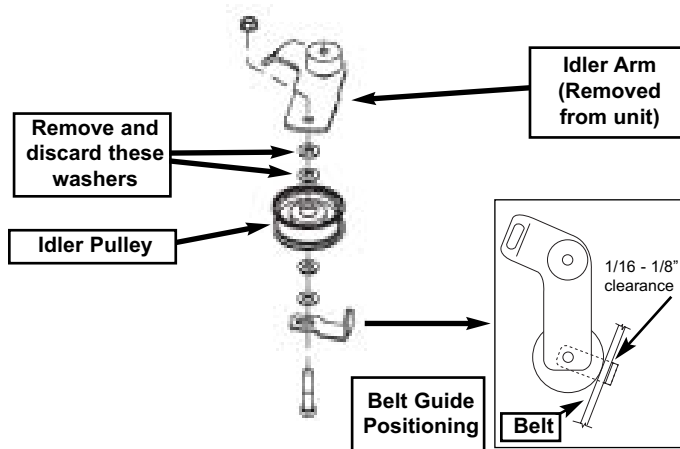

FIGURE 4
STEP 9: Remove the nut securing the transmission idler pulley to the idler arm, and remove the pulley assembly. See Figure 4.
Remove and discard the two spacing washers located between the top of the idler pulley and the idler arm. See Figure 4.
STEP 10: Reinstall the modified pulley assembly onto the idler arm, while at the same time replacing the existing transmission belt with the transmission belt supplied in this kit. Secure with the nut removed in Step 9, and position the belt guide as shown in Figure 4. Tighten the hardware securely.